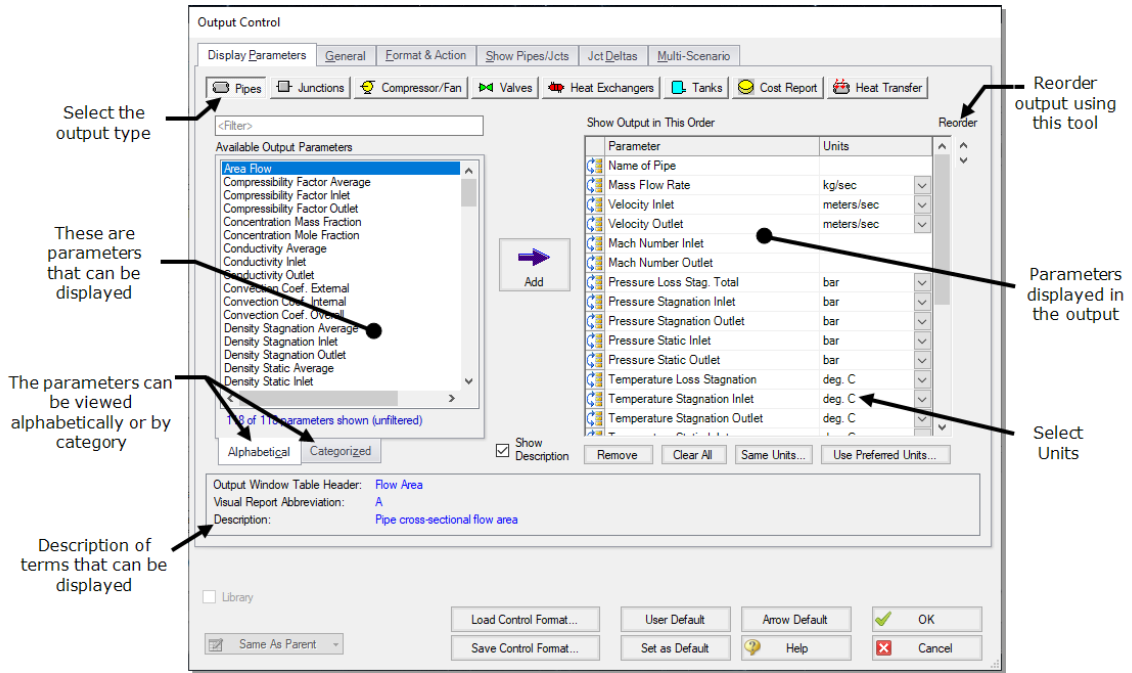

Figure 2.16 The Output Control window lets you customize the output
The Output Control window (Figure 2.16) allows you to select the specific output parameters you want in your output. You can also choose the units for the output. If you do not change any of the Output Control settings, default Output Control parameters and a default title are assigned.
- **Select Output Control** from the Tools menu or the Main Toolbar to open the Output Control window (Figure 2.16). On the Display Parameters tab, select the Pipes button. The list of selected pipe output
- **Select Output Control from the Tools menu** one more time. Select the Display Parameters tab, and select the Pipes button. The Reorder scroll bar on the far right allows you to reorder the sequence of parameters that will be displayed in the output. You can also click on the reorder symbol on the left side of each row to manually drag-and-drop the rows to change the parameter order (see Figure 2.16).